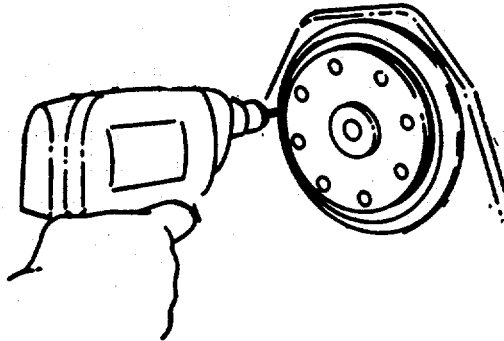

FIGURE 3-49. Drilling Front Crankshaft Seal.
- (2) Drill two 1/8" holes 180° apart in seal (FIGURE 3-49).